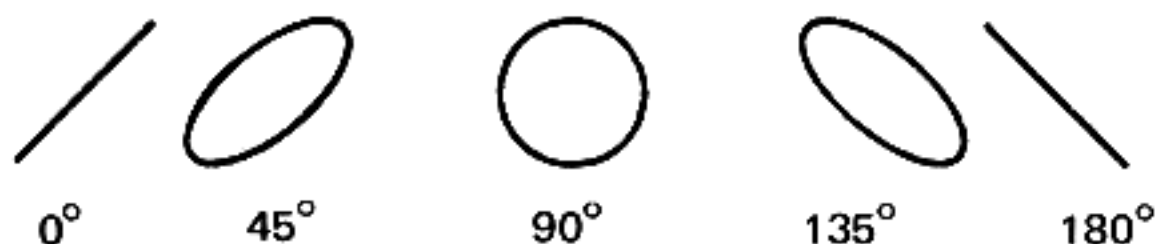

**FIGURE 2**
7. Using a non-conductive alignment tool, adjust the oscillator's trimmer capacitor until the oscilloscope reproduces the pattern illustrated in Figure 2. Adjust the capacitor until the pattern remains as nearly stationary as possible.